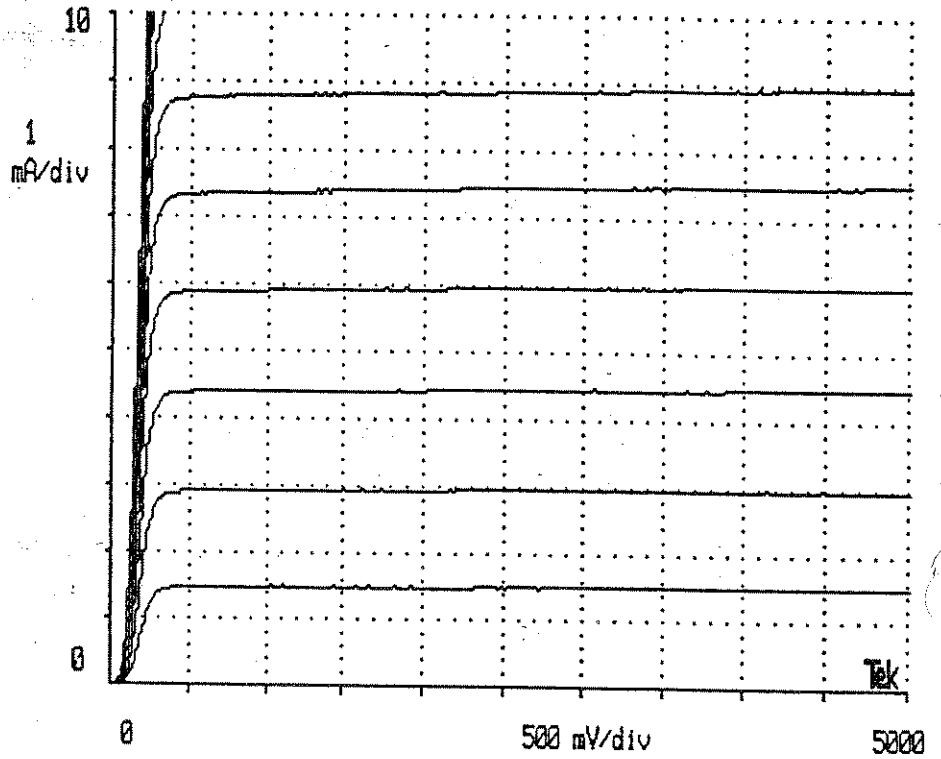

Figure 3-3:  $V_{ce} - I_c$  curves (NPN transistor)
- Step 4. Pressing START will result in a set of  $V_{ce} - I_c$  curves (see Figure 3-3) that gives a general indication of the transistor's performance.